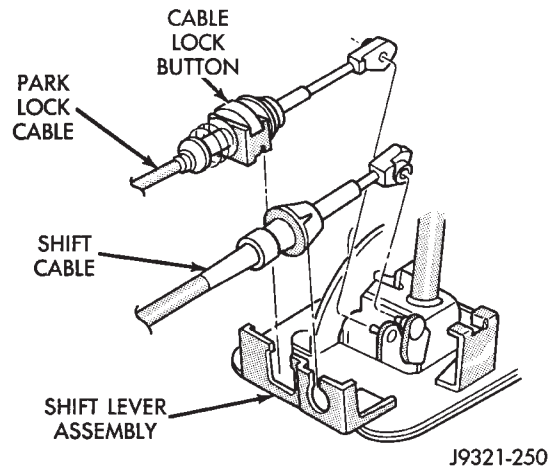

Fig. 3 Park Lock Cable Attachment (XJ)
- (1) Shift transmission into Park.
- (2) Turn ignition switch to Lock position.
- (3) Remove shift lever bezel and console screws. Raise bezel and console for access to cable.
- (4) Pull cable lock button up to release cable (Fig. 3).
- (5) Pull cable forward. Then release cable and press cable lock button down until it snaps in place.
- (6) Check adjustment as follows:
- (7) Move shift lever back to Park and check ignition switch operation. You should be able to turn switch to Lock position and shift lever release button/lever should not move.